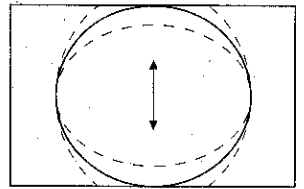

Fig. 12
- d) Adjust the horizontal location to obtain picture centering (fig. 12)